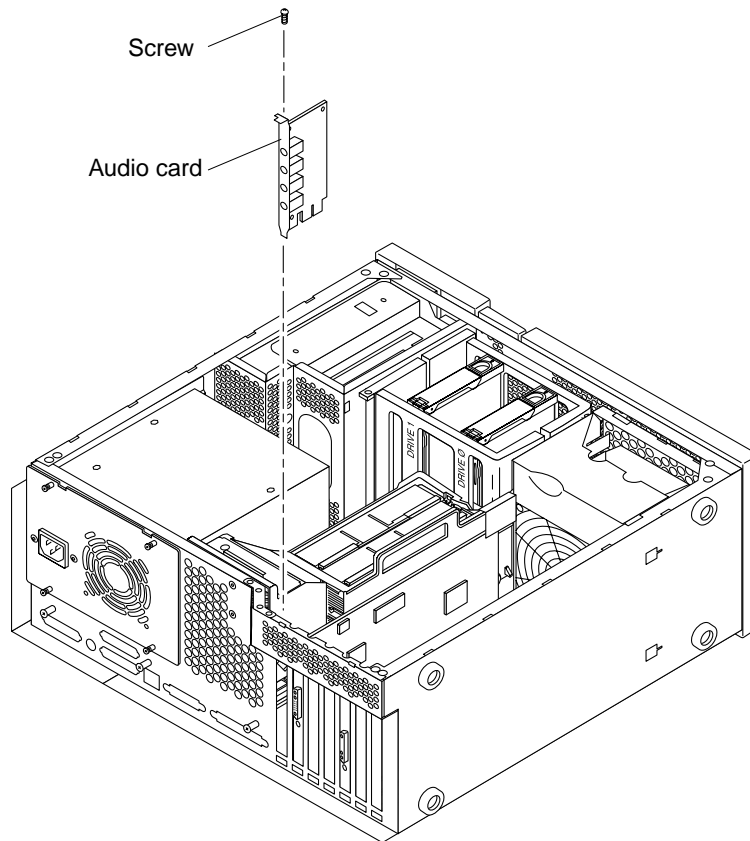

FIGURE 10-6 Removing and Replacing the Audio Card
5. Remove the audio card as follows (FIGURE 10-6):
1. **Replace the audio module as follows (FIGURE 10-6):**